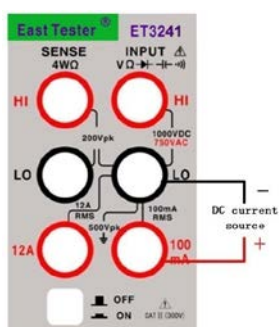
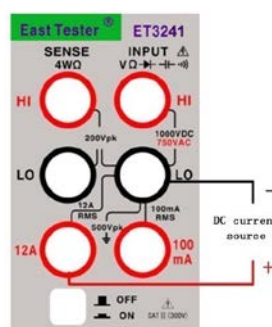

Figure 4-6 Wiring method for low current measurement
Figure 4-7 Wiring method for high current measurement
2. Choose different test terminals according to the measurement level. See Figure 4-6 for current of 200mA(ET3241)/ 400mA(ET3241B)/ 500mA(ET3242)/ 600mA(ET3243)and below, and connect the red and black test leads respectively to the proper input terminals. See Figure 4-7 for current from 200mA (ET3241)/ 400mA(ET3241B)/ 500mA(ET3242)/ 600mA(ET3243) to 12A, and connect the red and black test leads respectively to the proper input terminals.